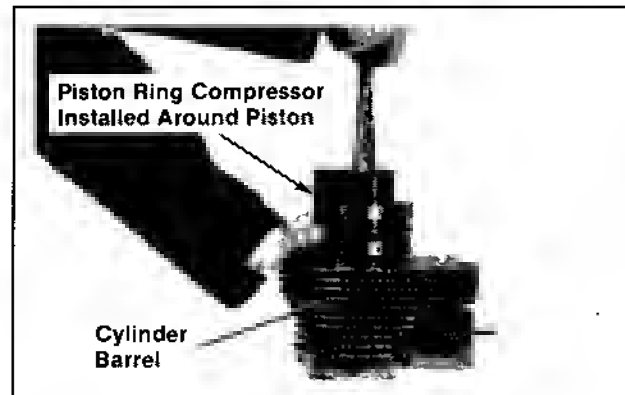

Figure 11-28. Installing Pistons.
2. Lubricate the pistons and rings with engine oil. Install piston ring compressor around pistons. Refer to Figure 11-28.
Gently push the pistons into cylinder bores from cylinder head side—do not pound on piston. Refer to Figure 11-28.